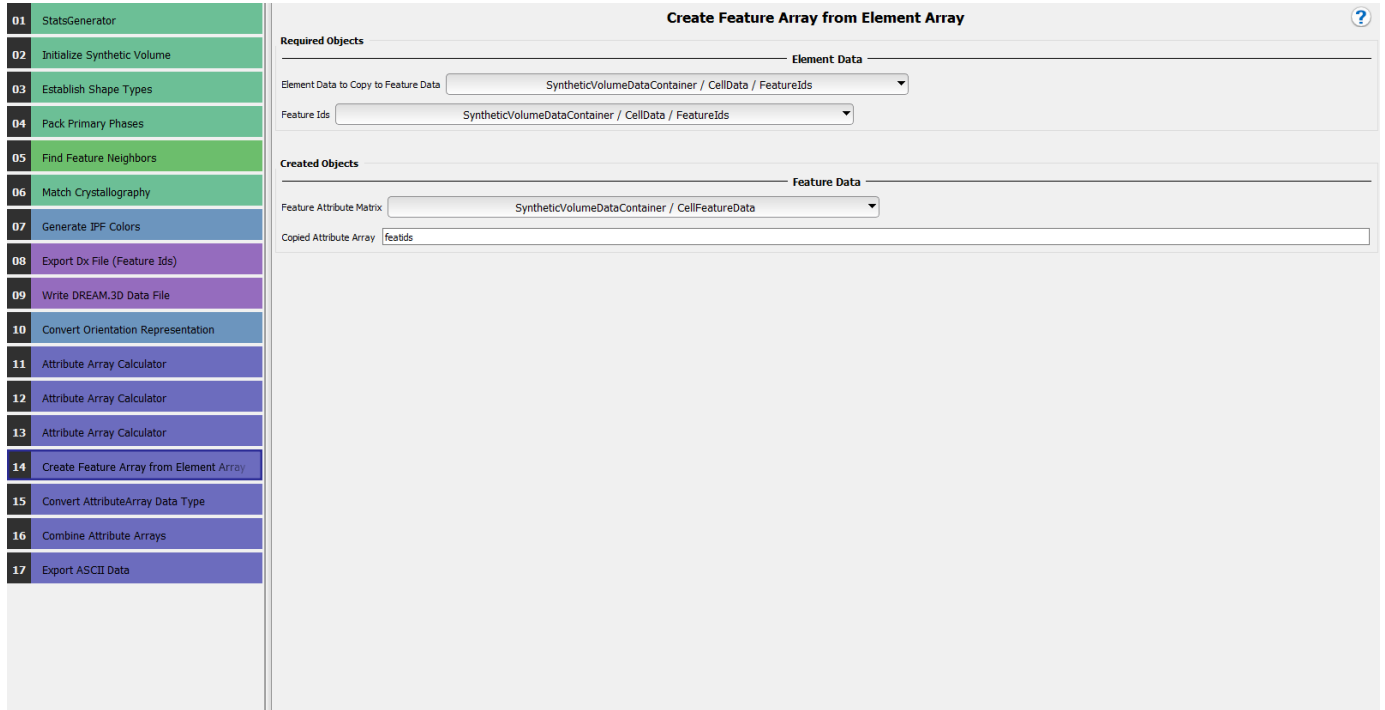

Figure 17: Attribute array calculator
15. From the previous procedure we have the Rodrigues vector. What we are left to obtain is the feature ids. For this copy the **Create Feature Array from Element Array** filter to the pipeline window. What we are doing here is to convert the feature ids available for every voxel into an array of distinct feature ids for the entire microstructure. In the **Required Objects** tab choose **SyntheticVolumeContainer / CellData / FeatureIds** for both the options. In the **Created Objects** tab choose **SyntheticVolumeContainer / CellFeatureData** for the **Feature Attribute Matrix** option and name the **Copied Attribute Array** as **featids**(Fig. 17) .